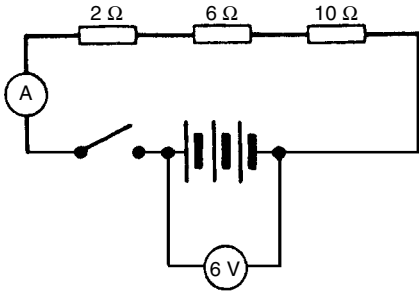

Figure 5.38
- With the switch in Fig. 5.38 closed the ammeter reading will indicate: (a) 108 A (b) $\frac{1}{3} \text{ A}$ (c) 3 A (d) $4\frac{3}{5} \text{ A}$
- A 6Ω resistor is connected in parallel with the three resistors of Fig. 5.38. With the